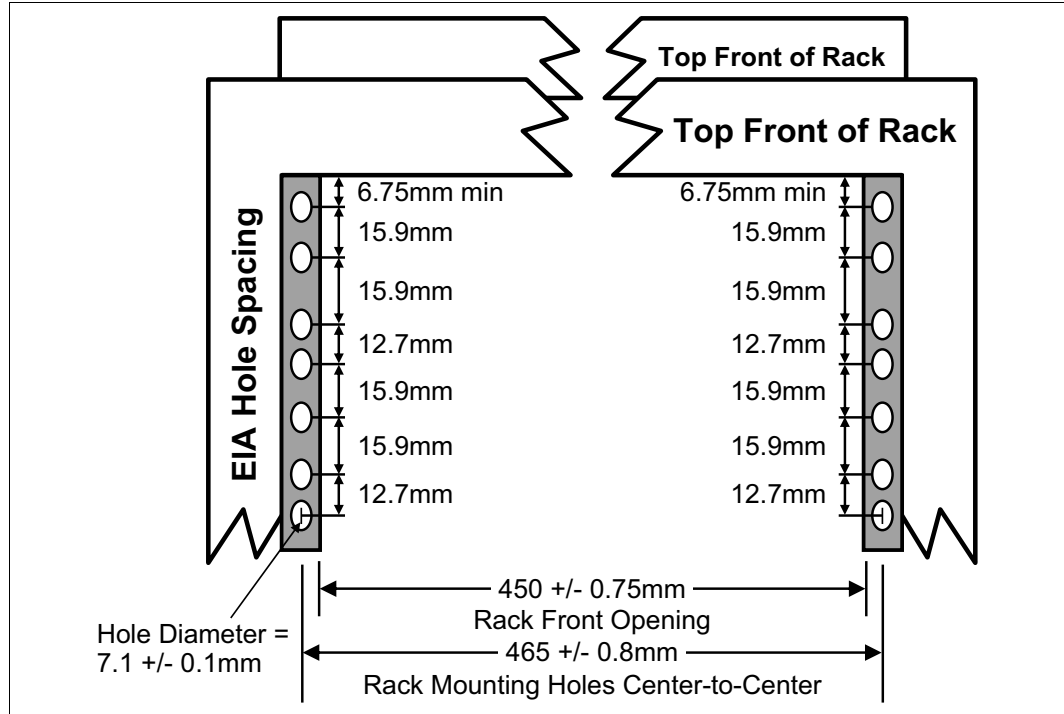

Figure 1-18 Rack specification dimensions: Top front view
- ▶ The vertical distance between the mounting holes must consist of sets of three holes spaced (from bottom to top) 15.9 mm (0.625 in.), 15.9 mm (0.625 in.), and 12.67 mm (0.5 in.) on-center, making each three-hole set of vertical hole spacing 44.45 mm (1.75 in.) apart on center. Rail-mounting holes must be 7.1 mm ± 0.1 mm (0.28 in. ± 0.004 in.) in diameter. Figure 1-18 shows the top front specification dimensions.